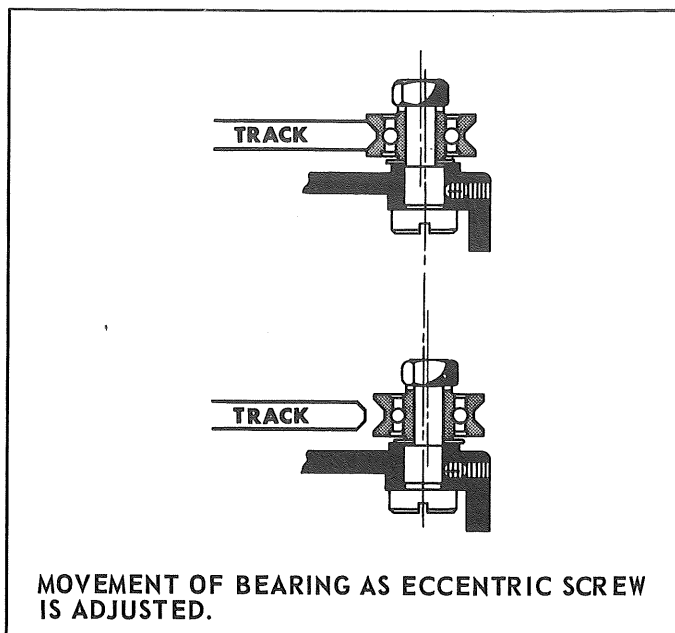

FIG. 11
8. Adjust bearing tension by turning screw until bearing is firm but not tight on track. Secure adjustment by holding screw in place and tightening set screw in carriage. Then tighten nut. Figure 11 illustrates the adjustment experienced between the track and carriage bearings when turning the eccentric screw.